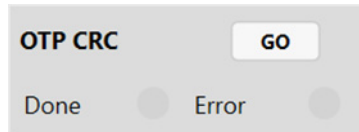

Figure 41: OTP CRC Monitor
10. Monitor the OTP CRC statues (see Figure 41).